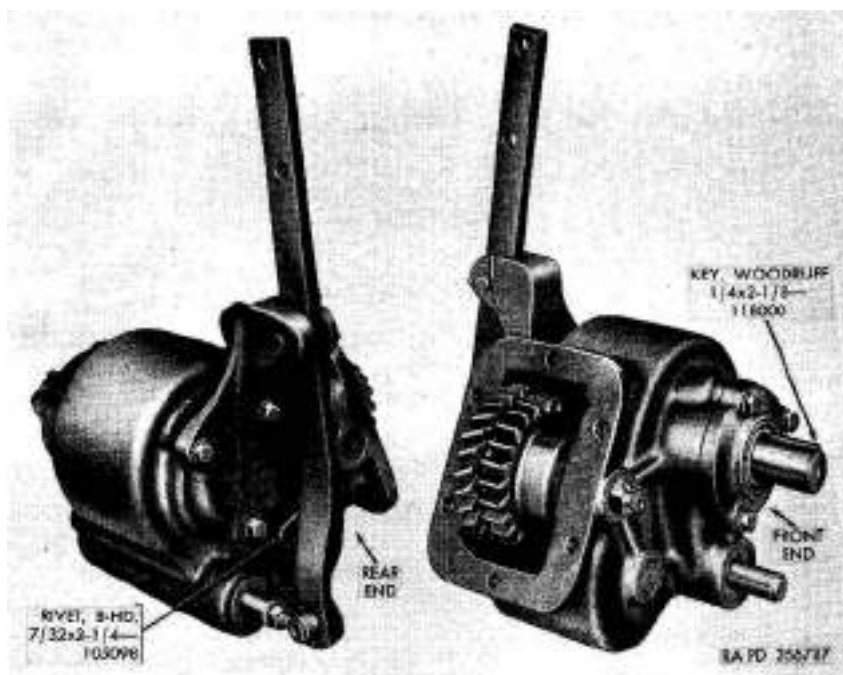
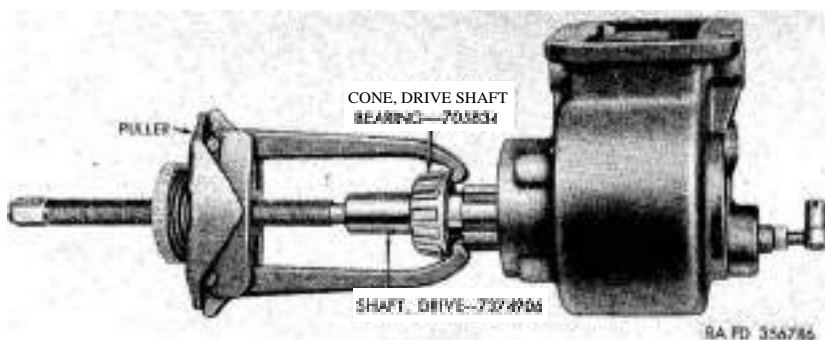

Figure 119. Power-take-off.
Figure 121. Removing drive shaft bearing cone with puller.
The power-take-off (fig. 119), which is mounted on left side of transmission, transmits power from transmission to the winch drive shaft for operation of the winch. The power-take-off provides clockwise and counterclockwise rotation. Both are controlled by a shift lever in driver's compartment.
- (1) Remove 5/16-18NC x $\frac{3}{4}$ cap screws (ZZ) and 5/16-inch washers (XX) ; then remove drive shaft end plate (WW) and drive shaft plate gaskets (B and VV) from housing. This is necessary to facilitate removal of rivet from reverse gear shaft (Z).
- (2) Cut off bent-over end of rivet (*fig. 119*) with a cold chisel and hammer. Drive rivet from housing with a punch and hammer.
- (3) Drive reverse gear shaft (Z) from housing with a bronze drift and hammer (drift at front end of shaft).
- (4) Remove reverse gear spacer (NN). Move sliding gear (RR) toward rear of housing to facilitate removal of reverse gear (QQ) . Remove reverse gear and reverse gear roller bearings (FF and PP).
- (1) Remove $\frac{1}{4}$ x $2\frac{1}{8}$ Woodruff key (*fig. 119*) from front end of drive shaft (L). Remove burrs from area of keyway in drive shaft.
- (2) Remove 5/16-18NC x $\frac{3}{4}$ cap screws (S), 5/16-inch lock washers (R) , drive shaft oil seal retaining plate (Q), and drive shaft plate gaskets (U and P) from housing (K).
- (3) Force front drive shaft bearing cup (N) and drive shaft (L) from housing with an arbor press.
- (4) Pull front drive shaft bearing cone (M) from drive shaft with a puller (*fig. 121*).
- (5) Force drive shaft and rear drive shaft bearing cup (C) from power-take-off housing with an arbor press.